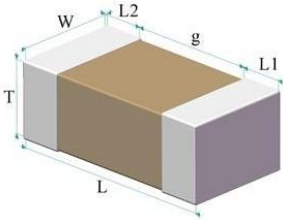

Fig.1 Structure & Dimension
| 2   | Size Code                                 | See Fig.1 and ② Size Code                                                                                                                                                                                                                                                        | Measuring by gages which precision is not less than 0.01 mm.                                                                                                                                                                                                                                                                       |